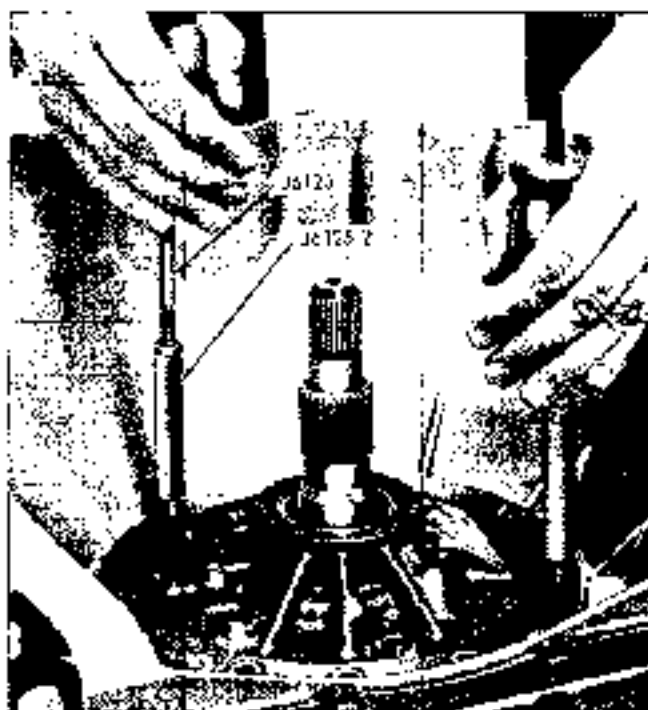

Fig. 7F-28 Removing Oil Pump
1. With transmission in vertical position, remove eight oil pump attaching bolts. Install slide hammers J 5125 and adapters J 5125-2 into threaded holes in pump, loosen pump and remove pump and gasket (Fig. 7F-28).